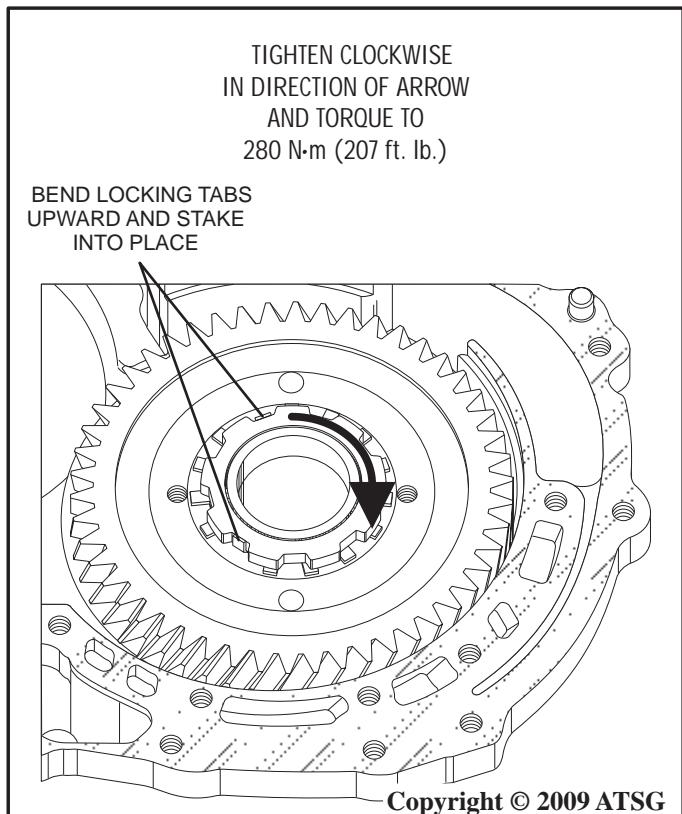

Figure 154
16. Use SST 09387-00030, 09387-00080 or other suitable socket and torque the retaining nut to 280 N m (207 ft. lb.) as shown in Figure 154.
17. Bend retaining nut locking tabs and stake them into place as shown in Figure 154.